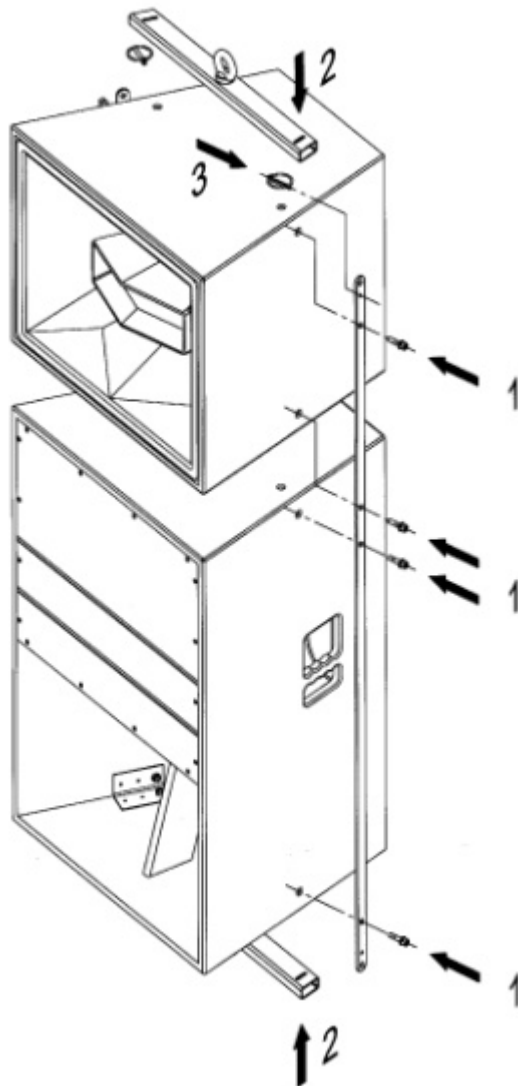
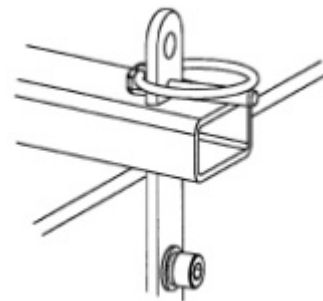

Figure 10e
Figure 10f
The flown system is assembled as shown in *Figure 10e*. First, the SR18/10 side rail kit is screwed to the side of both the iQ 18B and iQ 10 cabinets using the screws provided (1). The SCB Beam Kits are placed above and below the speaker assembly (2). The Lynch Pin is inserted into the holes of the side rail kit top and bottom (3) and the Pin folded to secure it in place (*Figure 10f*).
The flown system is assembled as shown in *Figure 10g*. First, the SR18/10 side rail kit is screwed to the side of each iQ 18B and iQ 10 cabinet using the screws provided (1). The JK1 Jointing Kit is slotted between two SCB Beam Kits for both the top and bottom (2). The combined SCB Beam Kits are placed above and below the speaker assemblies (3). The Lynch Pin is inserted into the holes of the side rail kit top and bottom (4) and the Pin folded to secure it in place (*Figure 10f*, page 12).